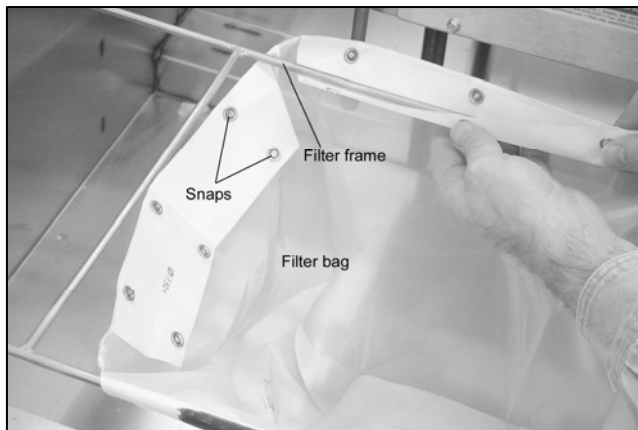

Figure 1-4. Installing the filter bag.
2. With the filter frame in hand, take the filter bag and attach it to the frame using the snaps. See Figure 1-4.